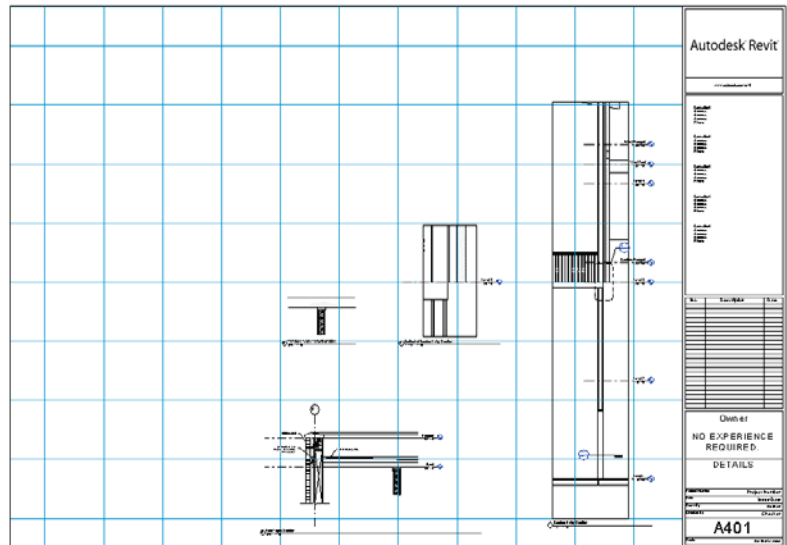

FIGURE 14.14 Building the A401 DETAILS sheet
The following procedure focuses on creating a detail sheet. If you feel as though you can create this sheet on your own, go ahead. The sheet will be number A401, it will be named DETAILS, and the views to be added are Corridor Entry Section, Callout of Corridor Entry Section, Roof Taper Section, and TYPICAL WALL TERMINATION. Your finished sheet should look like Figure 14.14.
5. In the Project Browser, drag the Sections (Building Section) item Callout Of Corridor Entry Section onto the sheet to the top left of the previous section (see Figure 14.14).
7. Drag the view called TYPICAL WALL TERMINATION to the sheet directly to the left of Callout Of Corridor Entry Section (see Figure 14.14).